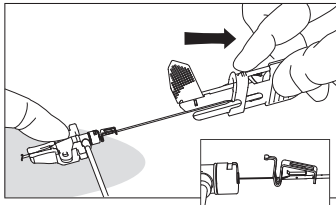

Figure 9
- The needle protection assembly will remain attached to proximal end of catheter hub until needle protection is activated. Visually confirm needle tip is enclosed in the needle protection (refer to Figure 9).